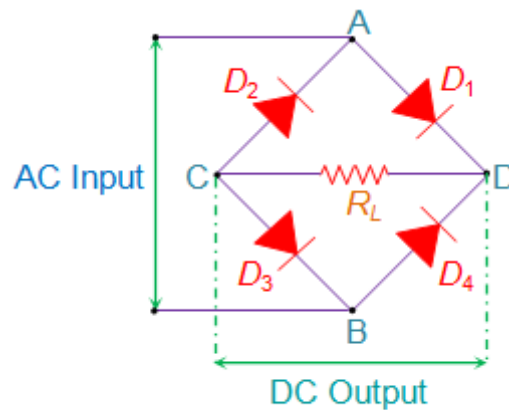

Figure 1 Bridge Rectifier
Further it is to be noted that the two-diode full-wave rectifier shown in Figure 1 is costly and bulky in size as it uses the complex centre-tapped transformer in its design. Thus one may resort to another type of full-wave rectifier called Full-Wave Bridge Rectifier (identical to Bridge Rectifier) which might or might not involve the transformer (even if used, will not be as complicated as a centre-tap one). It also offers higher TUF and higher PIV which makes it ideal for high power applications. However it is to be noted that the full wave bridge rectifier uses four diodes instead of two, which in turn increases the magnitude of voltage drop across the diodes, increasing the heating loss. **Full wave rectifiers** are used in general power supplies, to charge a battery and to provide power to the devices like motors, LEDs, etc. However due to the ripple content in the output waveform, they are not
Bridge Rectifiers are the circuits which convert alternating current (AC) into direct current (DC) using the diodes arranged in the bridge circuit configuration. They usually comprise of four or more number of diodes which cause the output generated to be of the same polarity irrespective of the polarity at the input. Figure 1 shows such a bridge rectifier composed of four diodes D_1 , D_2 , D_3 and D_4 in which the input is supplied across two terminals A and B in the figure while the output is collected across the load resistor R_L connected between the terminals C and D.